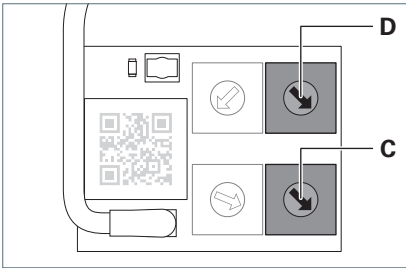

Fig. 7: Two rotary coding switches for group assignment.
- To assign the luminaire to exactly one group, set the two rotary coding switches **C** and **D** to the same group address, see Fig. 7.